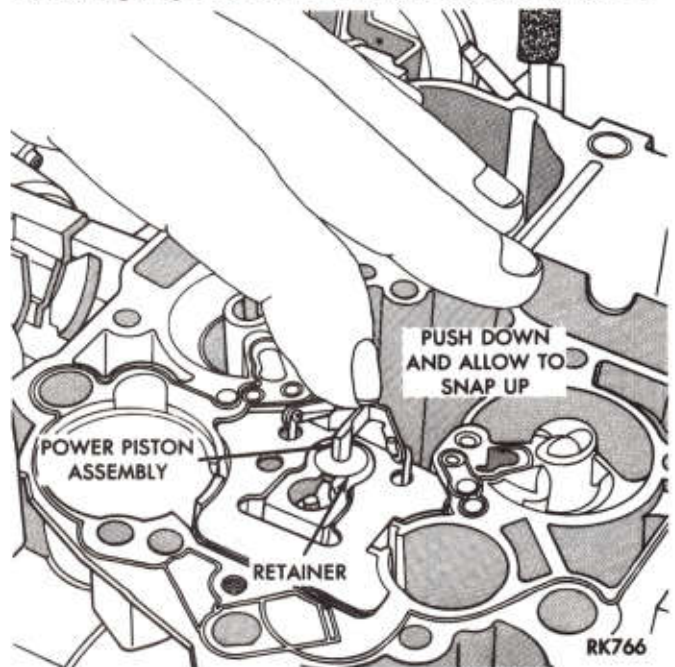
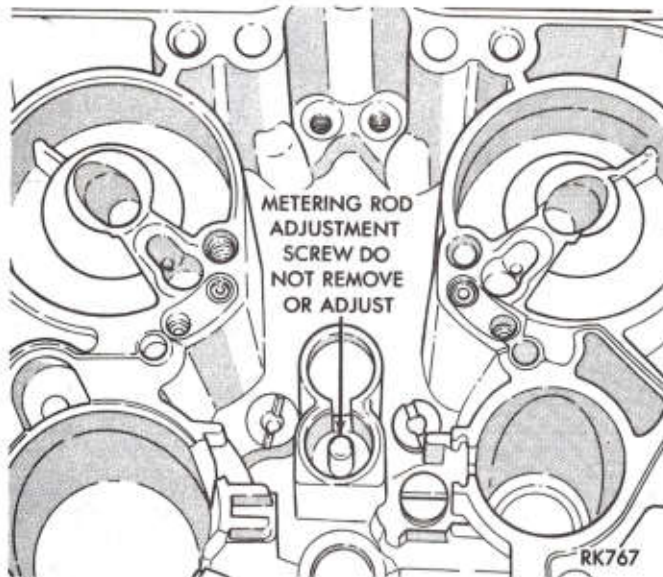

Fig. 17—Removing Power Piston
Fig. 18—Metering Rod Adjusting Screw
(2) Remove pump plunger and plunger spring from well.
(3) Remove power piston assembly by depressing piston stem and allowing it to snap up (Fig. 17). This procedure may have to be repeated several times to free piston retainer. Do not use pliers on the metering rod hanger to remove the power piston. This will cause the hanger to separate from the piston.
(4) Remove power piston spring from well.
(5) **Do not remove metering rod adjustment screw (Fig. 18). This screw is set at the factory and no**